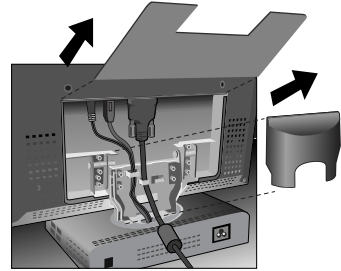

Figure AC.1
1. Remove the back panel and remove cable cover (Figure AC.1).